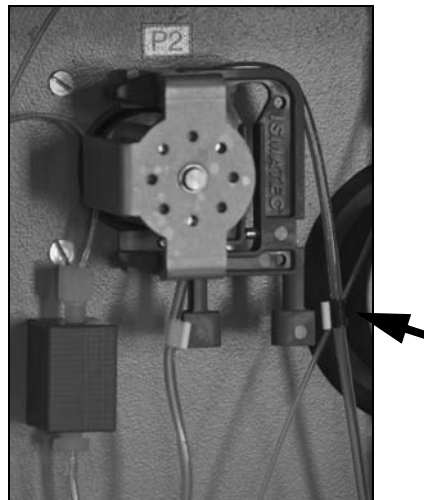

Fig. 29: Lower holder, pump P2
- Press against the lower holder (fig. 28, item 3 or fig. 29) to release the tube from the holder: